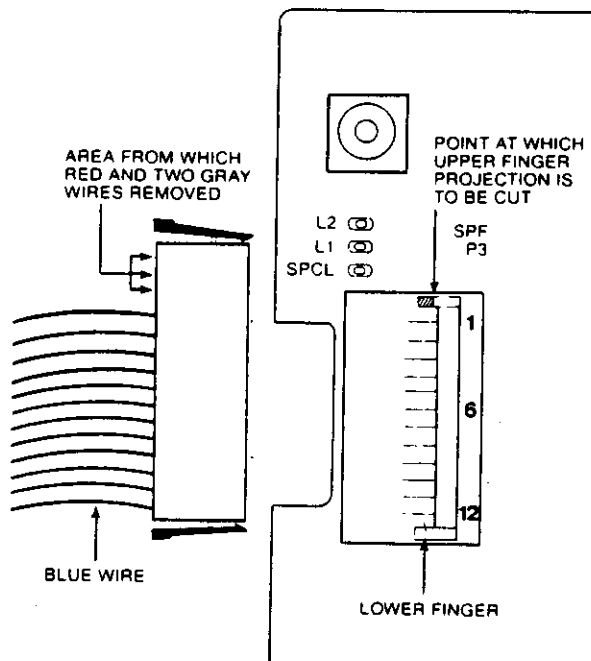

FIGURE 5B — VIEW OF UPPER LEFT CORNER OF EKT PCB (FROM ABOVE) — LINE UP OF ESIU CONNECTOR WITH SPF/P3 CONNECTOR
2.4.1 Cut the red wire and two adjacent gray wires from one female cable connector. See **Figure 5B**.
2.4.2 Note the two small finger projections at each end of the SPF/P3 male connector. In order for the fifteen pin female connector to be connected, it is necessary that the upper finger (see **Figure 5B**) be cut and removed. Using a pair of diagonal cutters, cut the upper finger as close to the SPF/P3 connector as possible without damaging the connector or its pins.
2.4.5 Line up the fifteen pin female plug, with the red and two adjacent gray wires cut off, with the twelve pin male SPF/P3 connector as shown in Figure 5B. The outside blue wire should be opposite the twelfth pin and the portion of the female plug from which the three wires were cut should extend beyond the twelve pins of the SPF/P3 connector. Connect the twelve remaining plug positions to the twelve pin SPF/P3 connector.